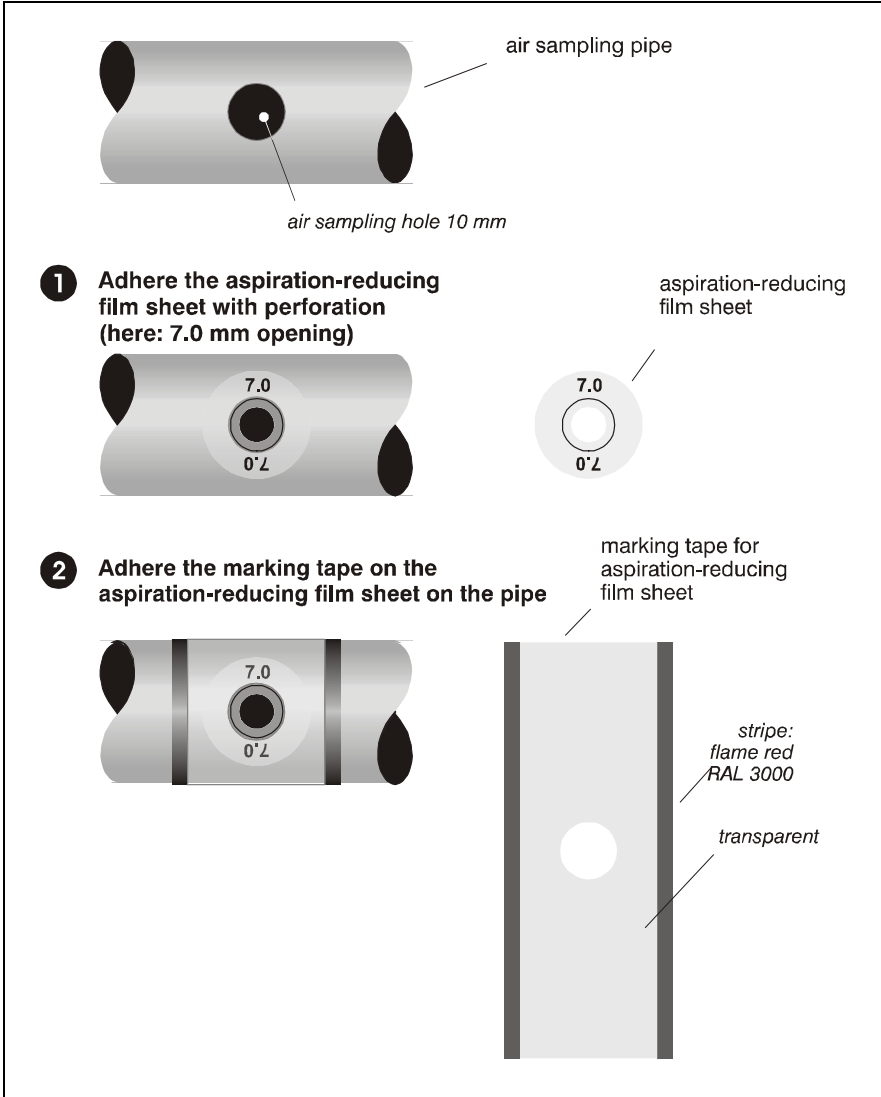

Fig. 6.3: Attaching the aspiration-reducing film sheet
4. Place the aspiration-reducing film sheet on the hole (refer to Fig. 6.3)
5. Prevent the film sheet from falling off by sticking marking tape on the film sheet (refer to Fig. 6.3).